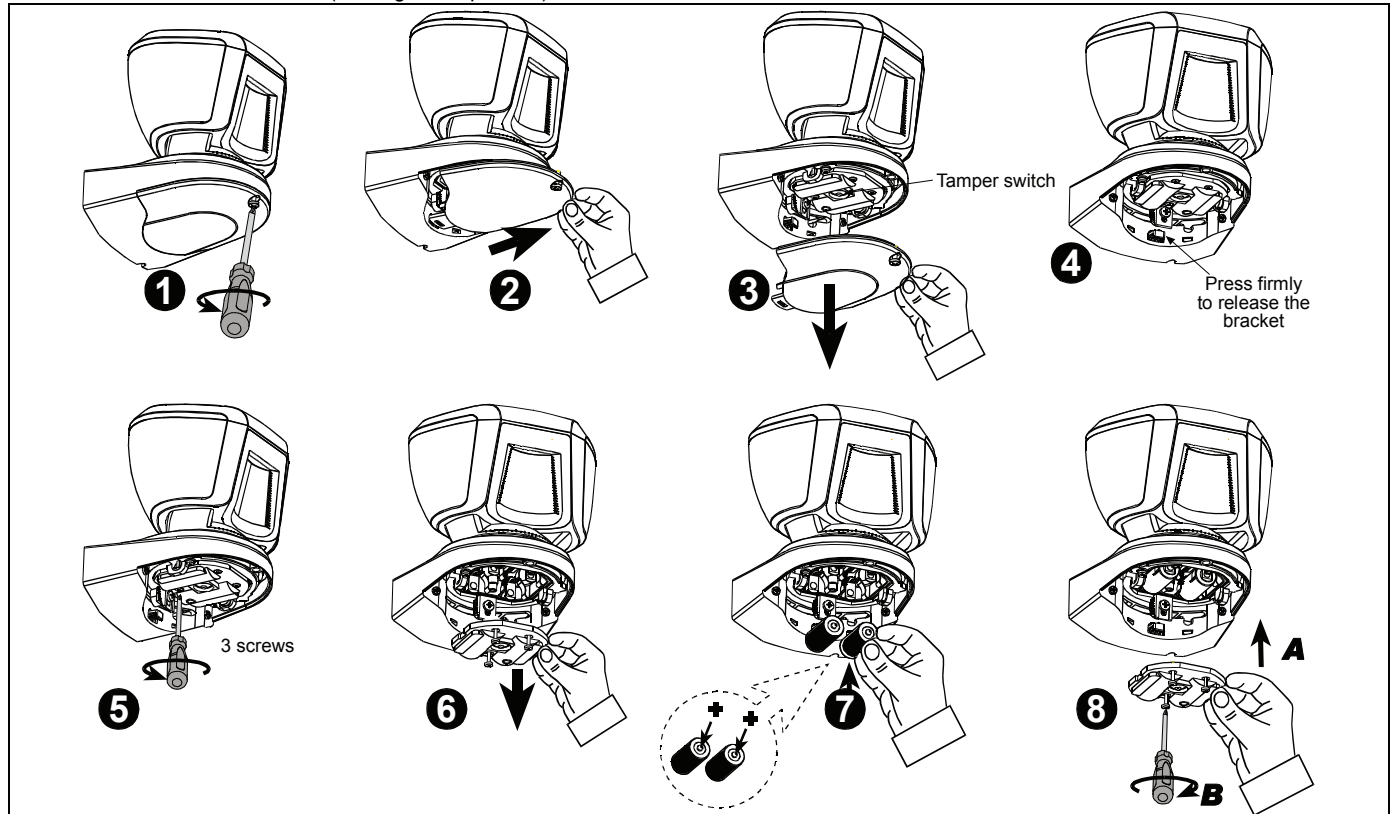

Figure 3 – Battery Insertion
Remove the 2 detector's bottom covers (see Figure 3, steps 1-5) to gain access to the DIP switches. Set the DIP switches according to Table 1:
3.2 Battery Insertion (Figure 3)
are instructed to initiate transmission from the detector. Activate the tamper switch, i.e. open the detector bottom cover (see Fig. 3, steps 1 - 3) and then close it.
Open the detector bottom cover (see Fig. 3, steps 1 - 3) and then press and release the tamper switch. The LED will flash for 60 seconds and then the detector will enter into 15 minutes walk-test mode.